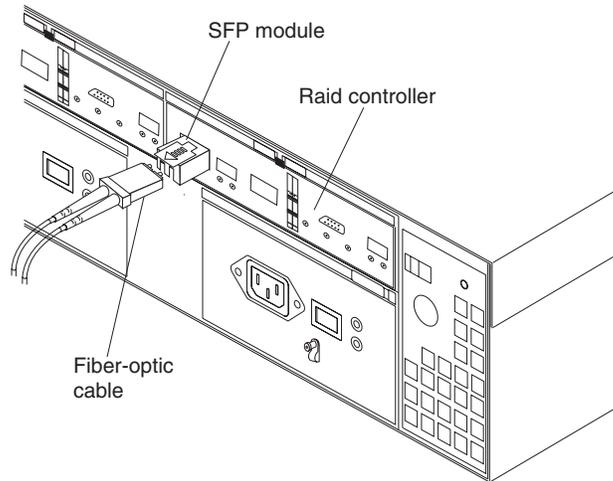

Figure 50. Location of SFPs and fiber-optic cables
3. From the RAID controller that has failed, remove the fibre-channel cables from the SFPs. The location of these components is shown in Figure 50 on page 65.